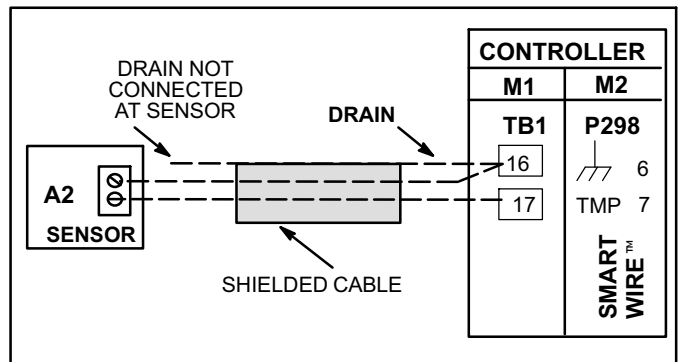
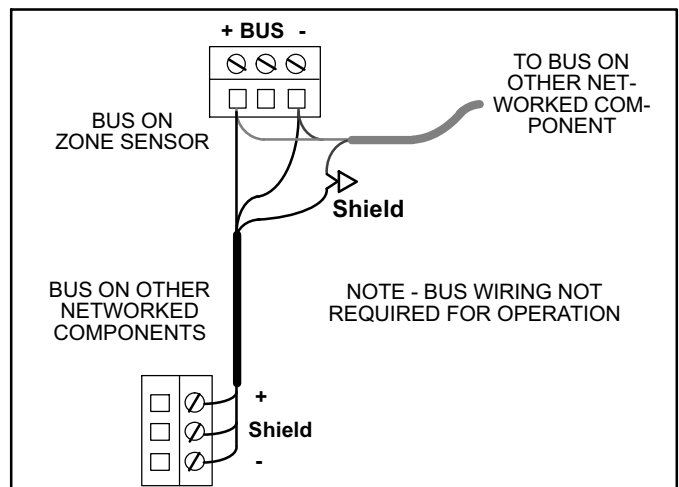

Figure 1. Sensor Wiring
Figure 5. Communication Wiring - L Connection (Available On 56L80 and 94L60 Sensors Only)
1. Route cable from the unit controller to an appropriate location in the conditioned space. Make wire connections to unit as shown in figure 1.
- Connect wiring to sensor as shown in figure 1. When use of the data port is desired on 56L80 and 94L60 sensors, make communication wire connections as shown in figure 5.
1. Route cable from unit controller to an appropriate location in the conditioned space. Make wire connections to unit as shown in figure 1 (see Page 1).